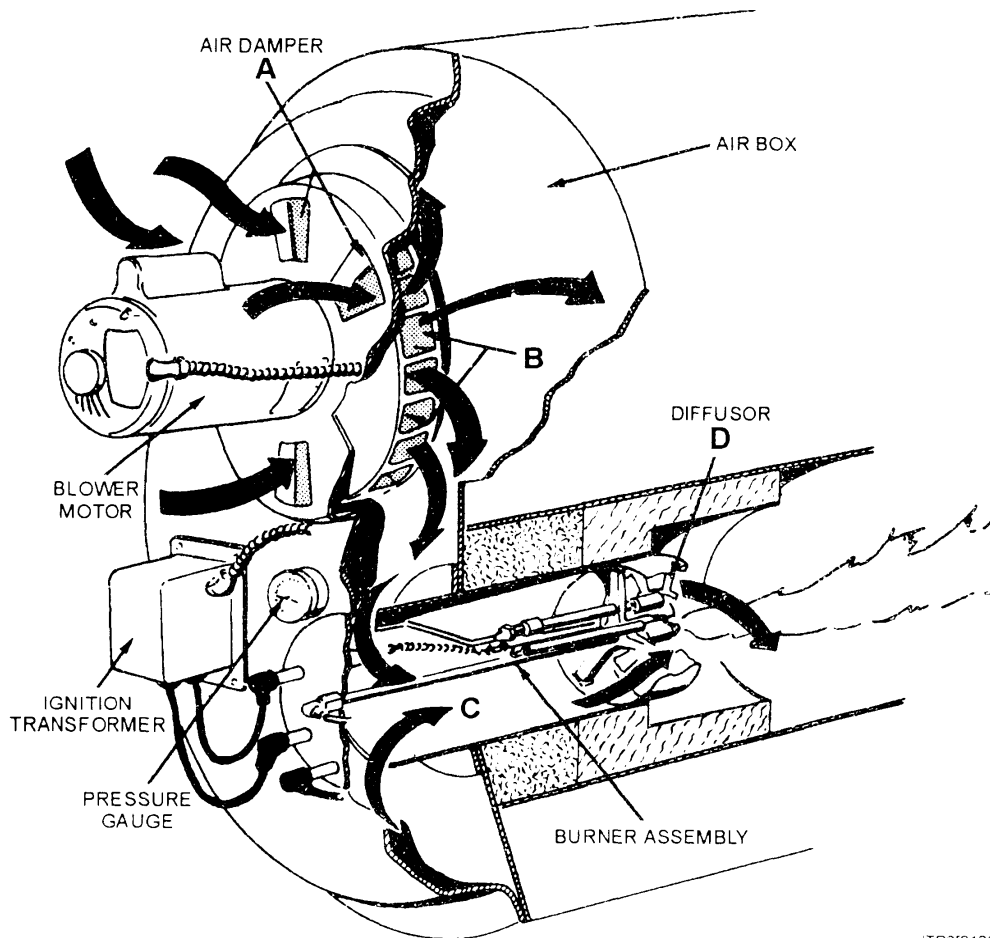

Figure 1-20.—Airflow diagram.
The combustion airflow diagram in figure 1-20 shows a cutaway view of those components that influence most the path of the air through the burner assembly. Air is drawn into the motor-driven blower through the adjustable air damper at (A) and forced